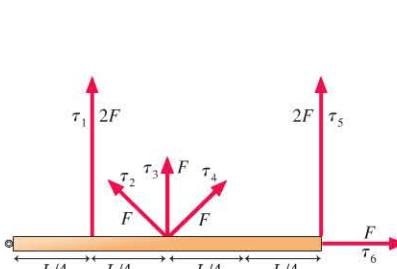

FIGURE P7.6
6. III Six forces, each of magnitude either  $F$  or  $2F$ , are applied to a door as seen from above in Figure P7.6. Rank in order, from smallest to largest, the six torques  $\tau_1$  to  $\tau_6$  about the hinge.